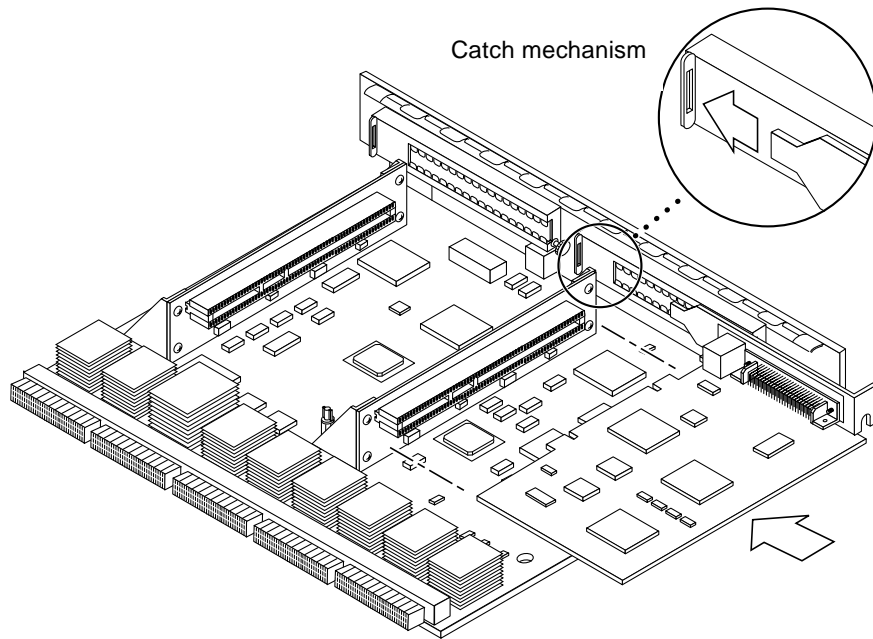

FIGURE 4-26 PCI Card Installation/Replacement
3. Align the PCI card so that the PCI bus connector mates with the PCI+ I/O board PCI bus connector, making sure that the external connector end of the card is retained on one side by the opening in the metal catch mechanism and the opposite end is properly aligned to accept the locking thumbscrew (FIGURE 4-26).